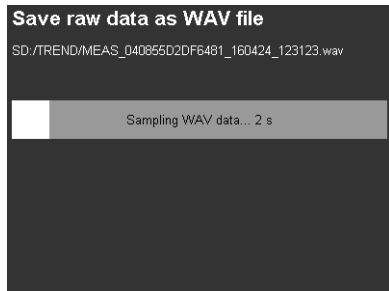

Figure 51: WAV recording
- **WAV:** Enables the raw data recording of the captured samples of a measurement channel in wave format, saved on an SD card in the TREND directory. A channel is recorded for 20 seconds at a sampling rate of 48828 samples/second with 24 bit resolution (figures 51 and 52). The samples are the raw data from the analog-to-digital converter. A gain of 1, 10 or 100 can be set before saving. The resulting output ranges are  $\pm 10$  V,  $\pm 1$  V or  $\pm 0.1$  V. A comment block ICMT containing information on the instrument and its settings is stored in the header data.